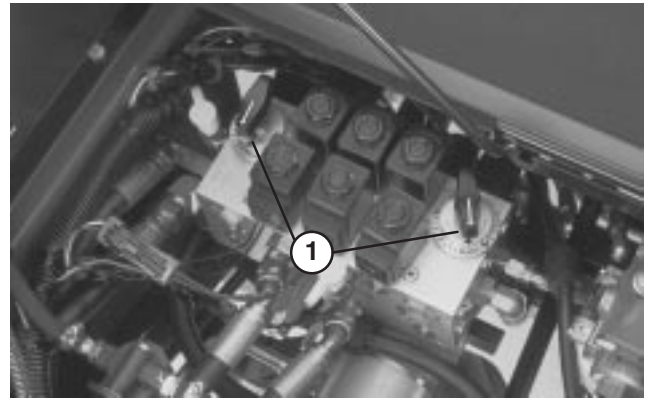

Figure 33
4. To set reel speed, rotate knobs (Fig. 33) until indicator arrows are in line with the number designating desired setting.